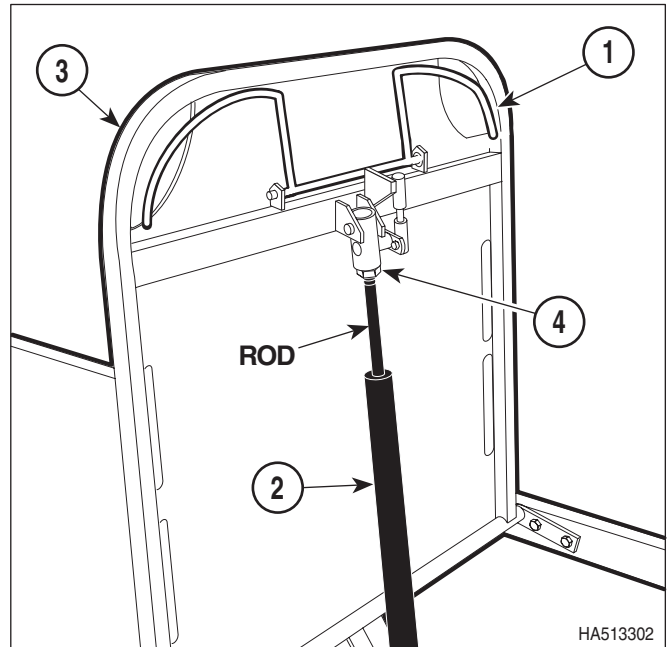

Figure 4-20. Fowler Gas Spring Adjustment
- (1) Squeeze the Fowler handle (1, Figure 4-20). The Fowler gas spring (2) should release when the handle is squeezed - meaning the Fowler (3) should be able to be raised and lowered. Release the Fowler handle. Put pressure on the Fowler. The Fowler should not "drift" downward.
- (2) Loosen jam nut (4).